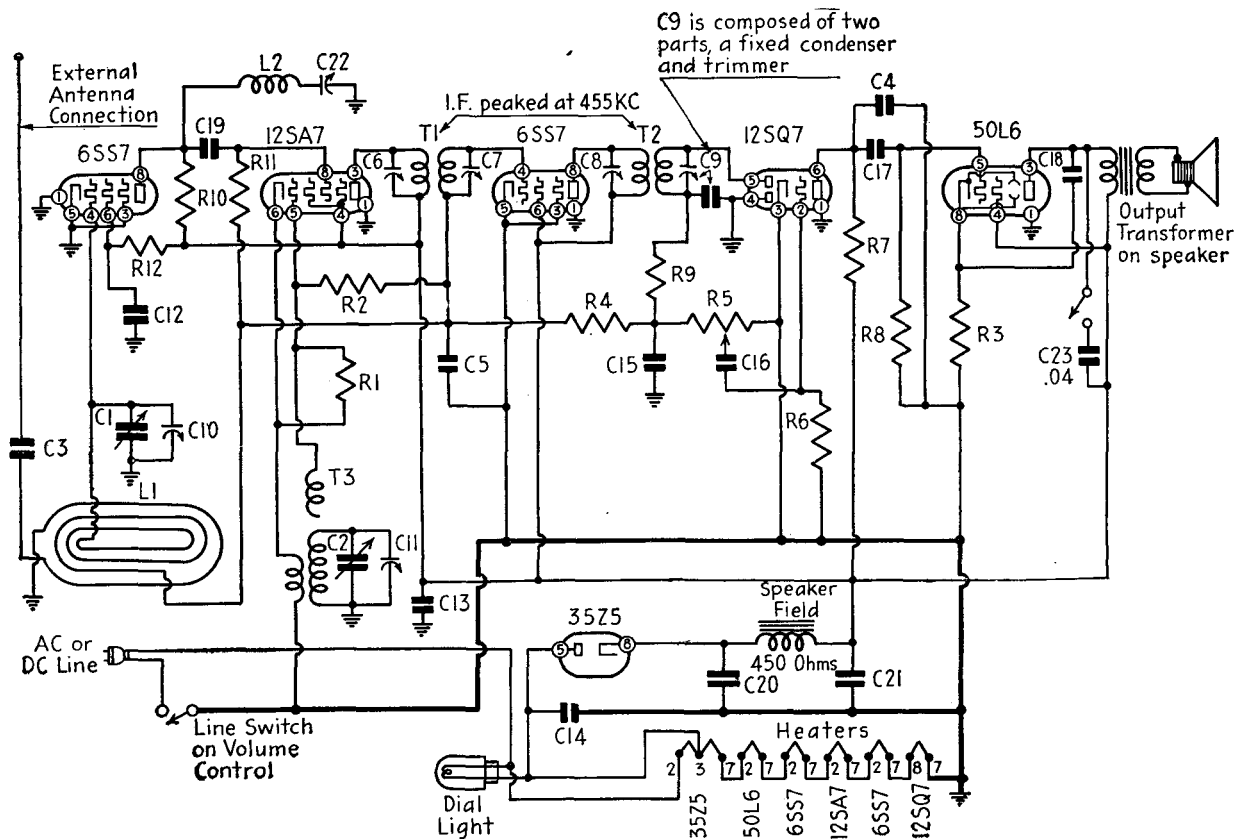
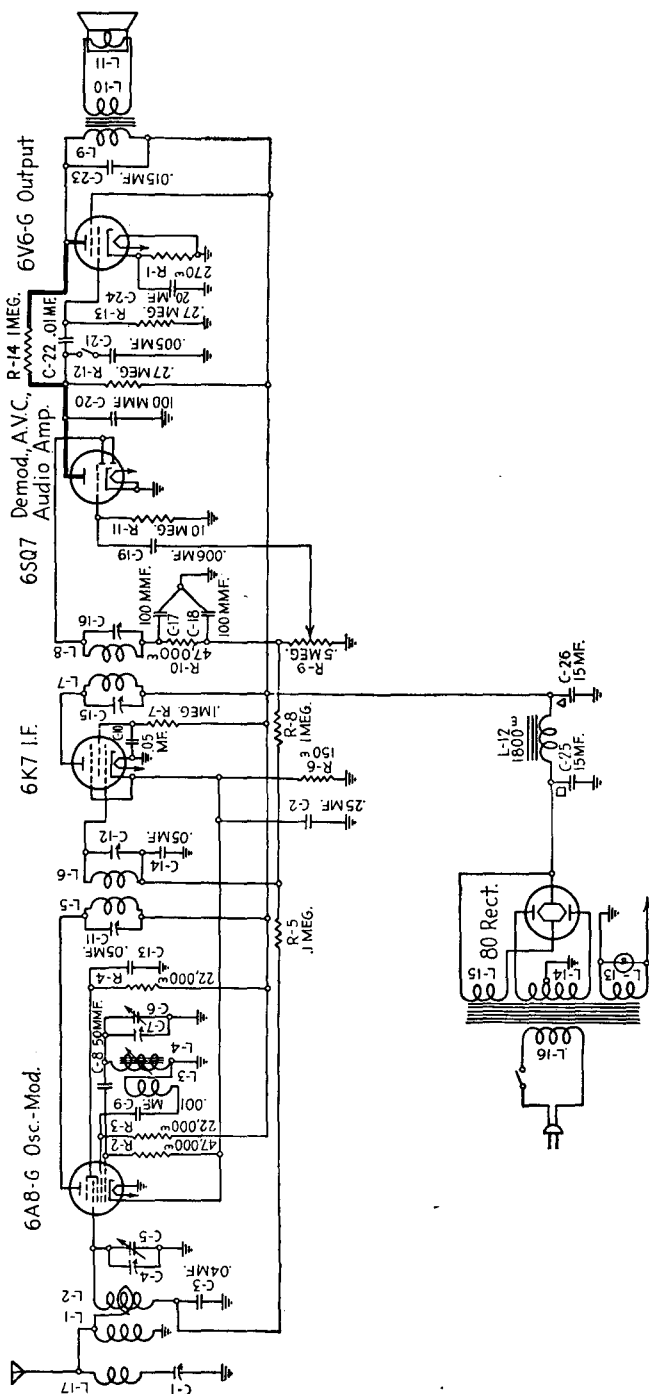

FIG. 10-13.—Schematic diagram for Emerson Model GB receiver.
Fig. 10-14.—Schematic circuit of the Stromberg-Carlson No. 400 receiver.
A modern trend in the use of tone controls is to replace the variable resistor $R-112$ with a switch, thereby making a 2-point tone control. An example of this is shown in Fig. 10-13. Note the tone condenser $C-23$ and its associated switch in the plate circuit of the 50L6 tube. When the switch is open, there is no shunting action, and this is the treble position. In the bass position, where the switch is closed, $C-23$, which is 0.04 mfd, shunts some of the high audio frequencies out of the speaker.
Figure 10-14 shows a similar 2-point tone control. In this case, the shunting action of $C-21$ and its associated switch is in the input circuit of the second AF tube.
In Fig. 10-13, the cathode by-pass condenser has been omitted to provide degeneration through self-bias resistor $R-3$, which is common to both the input and output circuits of the 50L6 tube. Since the input and output circuits of a tube are 180 deg out of phase, degeneration is automatic. Condenser $C-18$, the high-frequency by-pass condenser, is returned directly to cathode rather than to ground, so that the degenerative effect is greater at the higher frequencies (especially the high harmonic frequencies), thereby making for more uniform response for the stage. In Fig. 10-14 the inverse feedback
As a general rule, inverse feedback circuits do not cause many complications to the serviceman. All tests and service notes pertaining to the standard amplifier circuit may be applied. Resistor *R*-14 in the feedback circuit, represented in Fig. 10-14, will rarely cause any service difficulty.
5. The receiver of Fig. 10-14 has low volume and sounds tinny. A voltage check shows normal voltage readings. Substitution of the bench test speaker causes no improvement. What should the next check be?
6. The receiver of Fig. 10-14 motorboats. Bridging the output filter condenser C-26 with a 20-mfd/450-volt condenser causes no improvement. What should the next check be?
7. The receiver of Fig. 10-13 begins to distort after it has been playing for 15 min. What would you suspect is wrong? How would you confirm your suspicion?
9. The receiver of Fig. 10-13 is brought in as dead and gives the following voltage readings for the second AF stage: